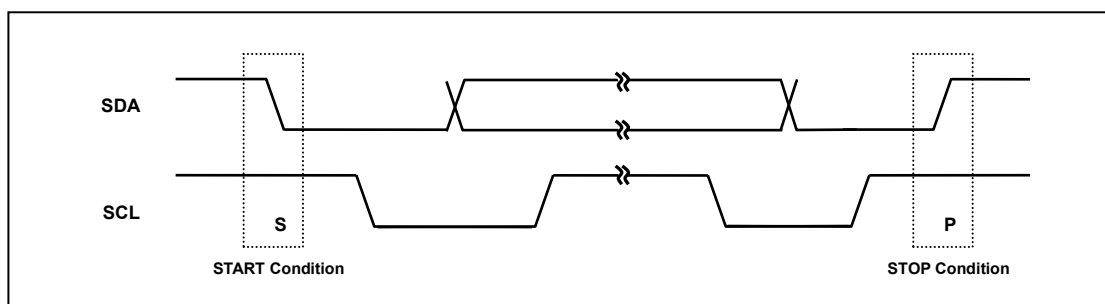

Figure 39. START and STOP Condition
Within the procedure of the I²C-bus, unique situations arise which are defined as START(S) and STOP(P) conditions; see Figure 39.